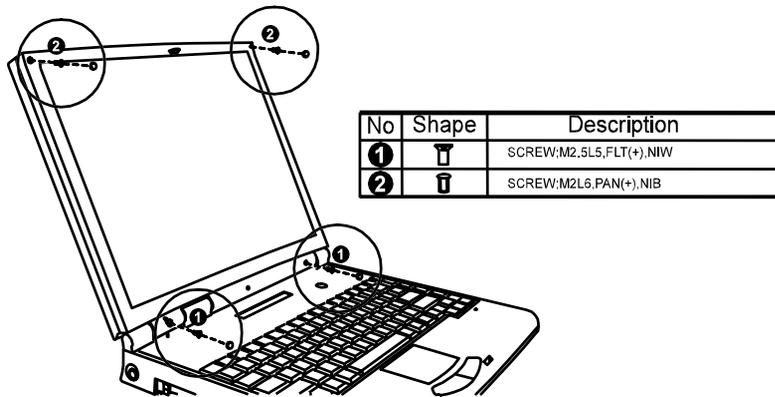

Figure 7-25. Removing the LCD Frame
2. Fit the LCD frame back to the housing and replace the four screws and rubber pads (ref fig 7-25.)
2. Fit the LCD frame back to the housing and replace the screws and rubber pads (ref fig 7-25)